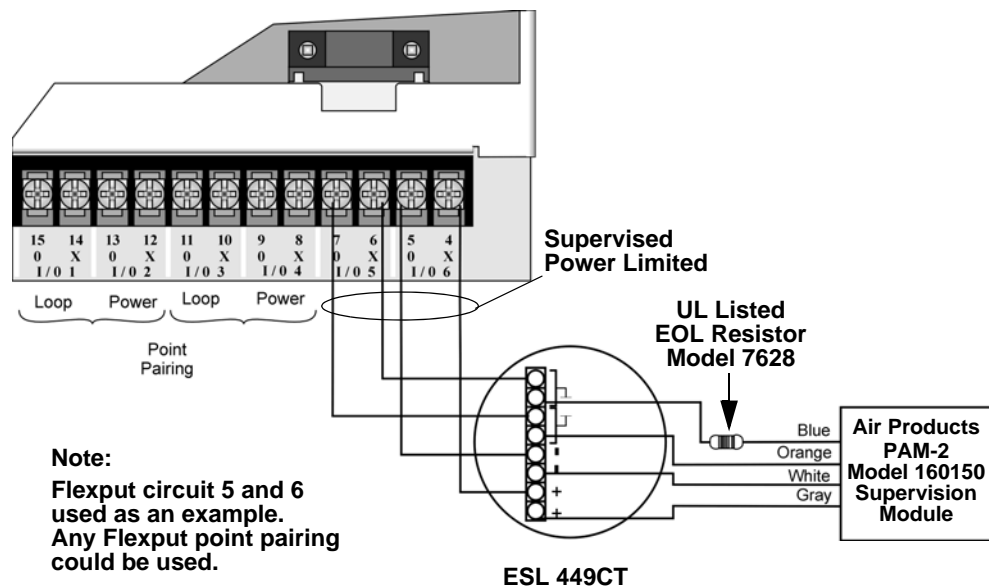

Figure 4-36 Class B 4-Wire Smoke Detector Connections
Figure 4-36 illustrates how to install a 4-wire Class B smoke detector.
2. Each Class B loop input is paired with a unique power source as shown in Figure 4-36.
Note: In programming any point that uses multiple Flexput circuits, the lowest Flexput circuit number is used to refer to the circuit pair. For example, Figure 4-36 uses both Flexput circuit 5 and 6, so in programming it would be referred to as point 5.